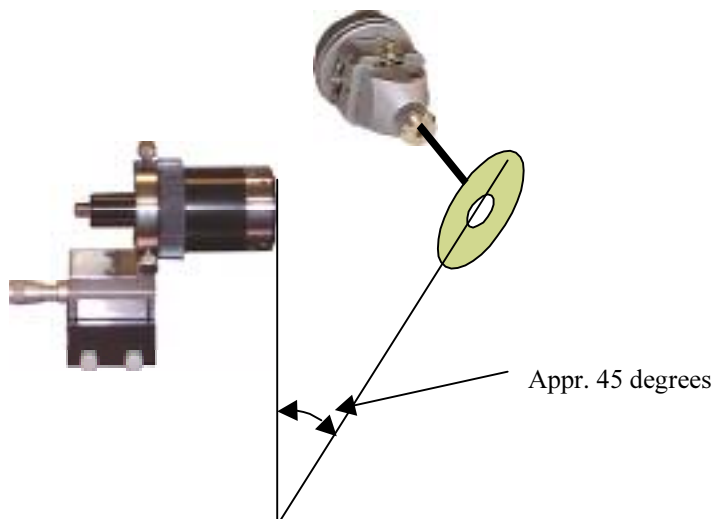

Fig 20
- 2) Turn the pinhole so that the angle to the objective is appr. 45 degrees. Fig 20.